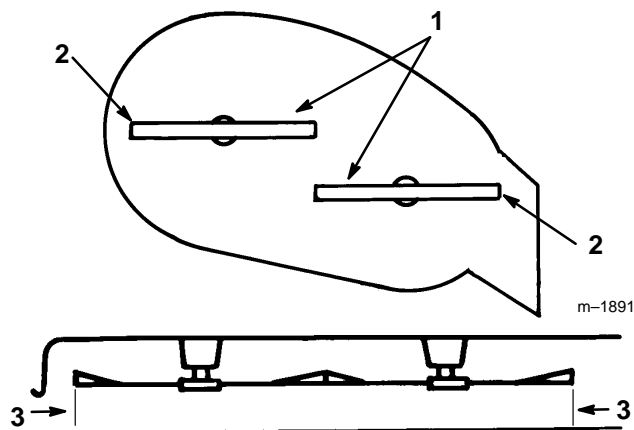

Figure 48
4. Carefully rotate blade(s) side to side (Fig. 48). Measure between the outside cutting edges and the flat surface (Fig. 48). If both measurements are not within 3/16" (5 mm), an adjustment is required; refer to steps 5 and 6.